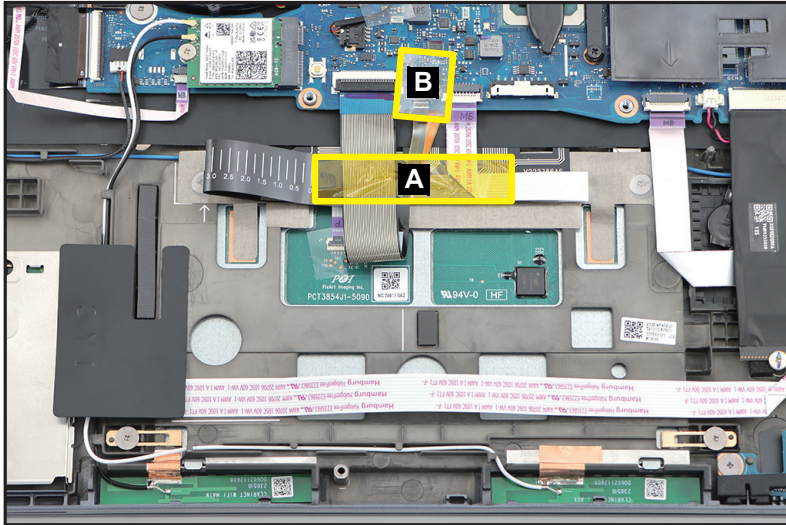

Figure 1-37. Touchpad Module Removal
1. Detach the kapton tape (A) and the mylar (B) securing the cables in place (Figure 1-37).